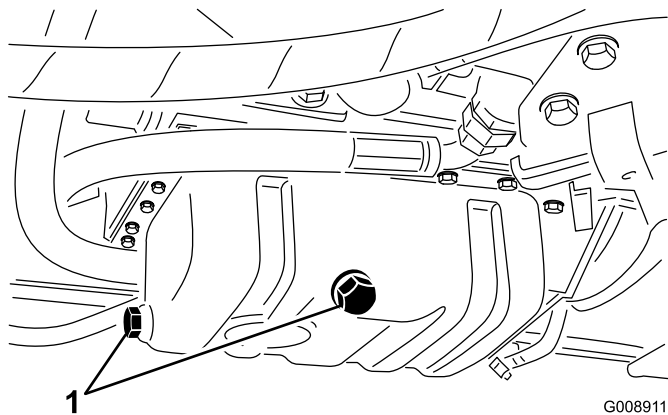

Figure 61
1. Remove either drain plug (Figure 61) and let the oil flow into a drain pan; when the oil stops flowing, install the drain plug.